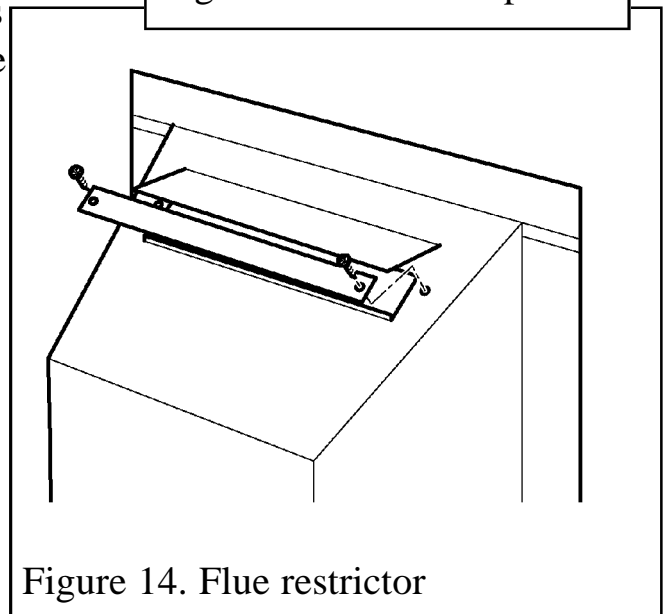

Figure 14. Flue restrictor
14. This appliance is supplied with a flue restrictor for use where the flue draught is excessive. The restrictor must NOT be fitted where a precast flue or a flue liner is used. For all other installations the restrictor should be fitted. There may however, be certain exceptional circumstances where fitting the restrictor causes the fire to fail the spillage test. In such cases the restrictor will have to be removed. After removal conduct the spillage check again. The restrictor is packed loose with the appliance and is fixed with two screws (See figure 14).
**‘Fascination’, ‘Aspect Glass’ and ‘Tranquility’ models.:** The restrictor has two location holes and a notch along one edge. It is important that the notch is positioned to the top (See figure 14).